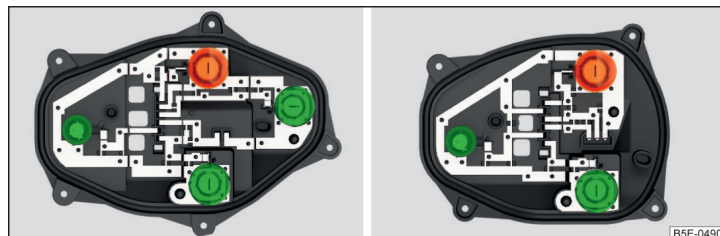

Fig. 245 Inner part of the light: Basic light/light with LED diodes
- Turn the respective light bulb » Fig. 245 until it stops **counter-clockwise** and remove it from the bulb holder.